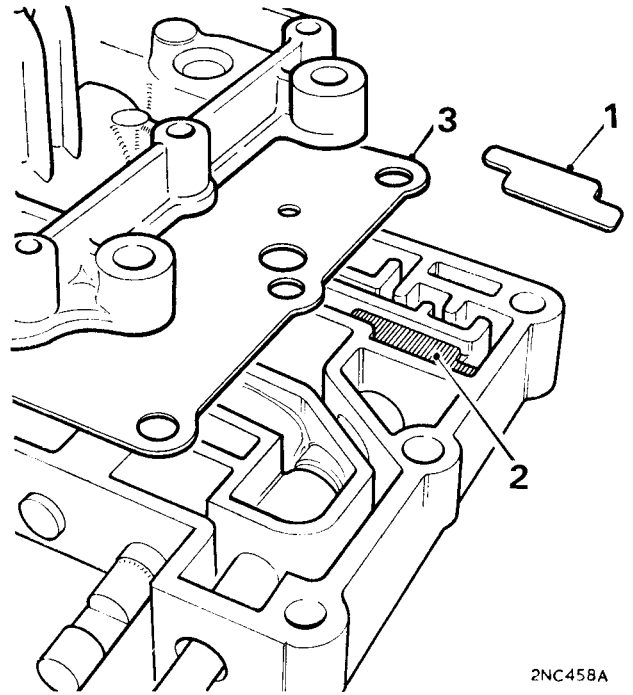

Fig. Fa.35
9. When reassembling the complete valve block see that the flap valve is fitted, lying flat, in its correct location behind the selector valve as shown in Fig. Fa.35, and that the separator plate is fitted between the valve chest and the pipe chest.